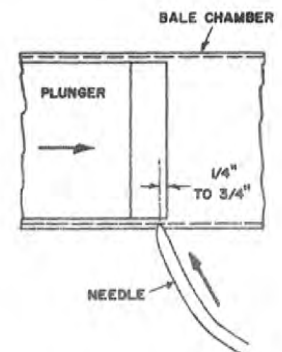

FIGURE 32
Needles, when properly "in time" with the plunger, just begin to enter the bale chamber when the tips of the projections on the face of the plunger have passed the points of the needles by  $\frac{1}{4}$ " -  $\frac{3}{4}$ ". See Figure 32.
2. Turn the flywheel counter-clockwise until the crank is in a vertical position between the timing marks, "A" and "B", Figure 32 on the upper side of the bale chamber.